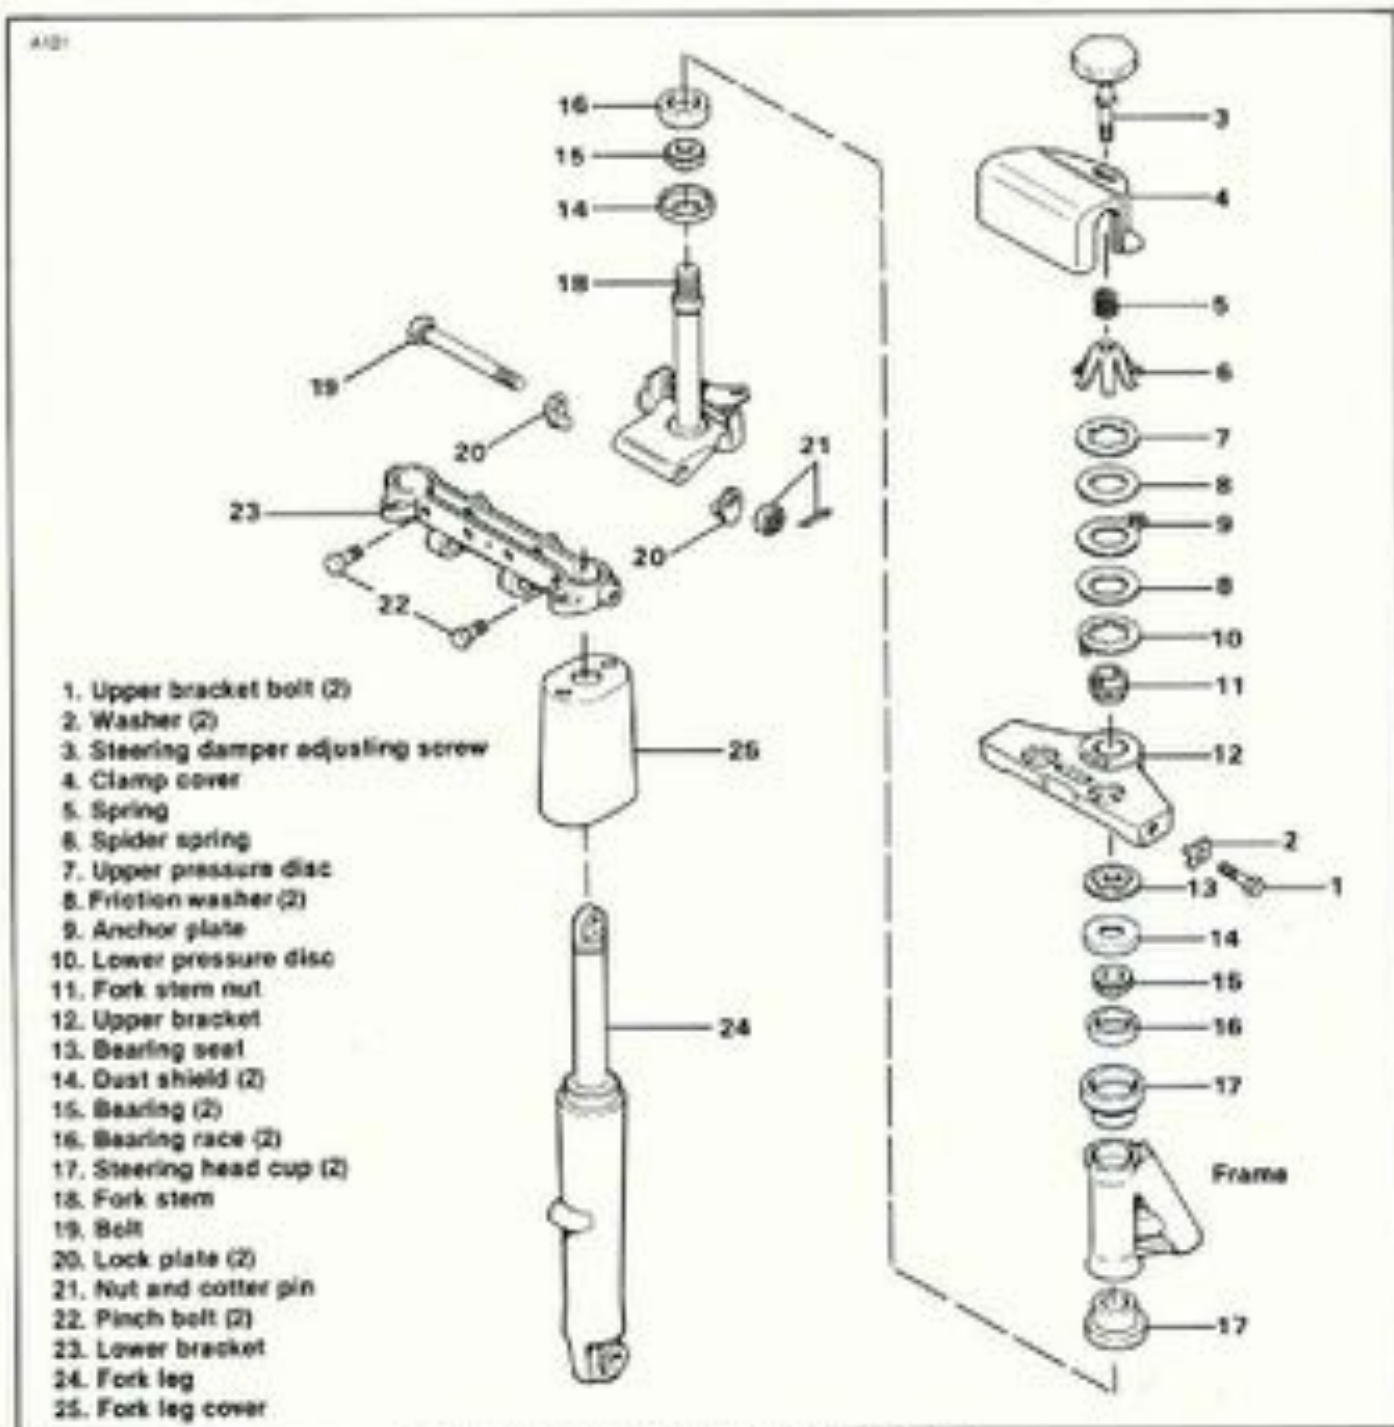

Figure 2-72. Adjustable Fork Stem and Bracket
**Adjustable Forks.** See Figure 2-72. Remove the upper bracket bolts (1) and washers (2). Loosen the lower bracket pinch bolts (22) and pull the fork sides from the brackets.
**Adjustable Forks.** See Figure 2-72. Install the upper bracket bolts (1) and washers (2). Tighten the bolts to 22-26 ft-lbs torque.
## ADJUSTABLE FORK STEM AND BRACKET (Figure 2-72)